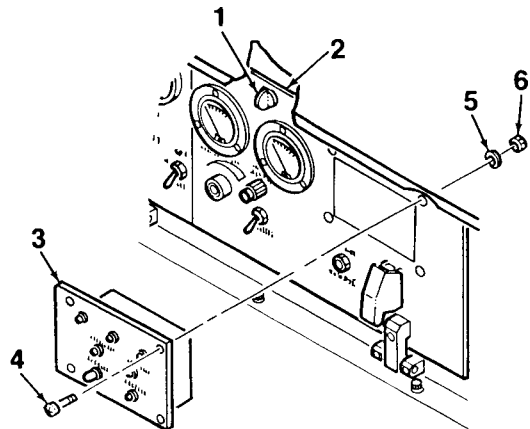

Figure 4-9. Fault Indicator Module
1. Turn quarter-turn fasteners (1, Figure 4-9) to unlock and open control panel (2).
2. Tag and disconnect electrical wiring from the rear of fault indicator module (3).
3. Remove fault indicator module (3) from control panel (2) by removing four screws (4), washers (5), and locknuts (6).
1. Mate fault indicator module (3, Figure 4-9) to control panel (2). Secure using four screws (4), washers (5), and locknuts (6).
2. Connect electrical wiring to the rear of fault indicator module (3).
3. Close control panel (2) and lock in place using quarter-turn fasteners (1).